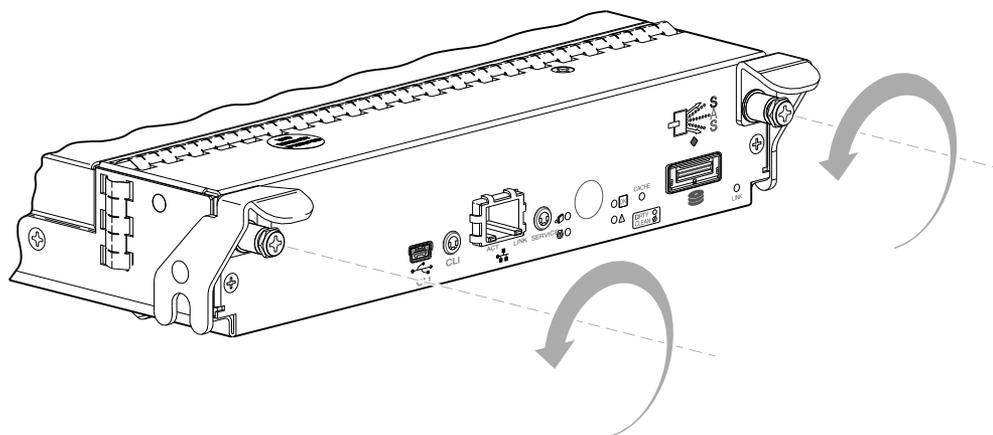

Figure 10 Disengaging a controller module
4. Turn the thumbscrews counterclockwise until they disengage from the controller (see Figure 10 on page 26).